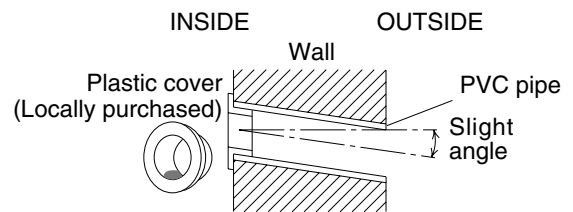

Fig. 3-18
- (6) Place the plastic cover over the end of the pipe (for indoor side only) and insert the pipe in the wall. (Fig. 3-18)